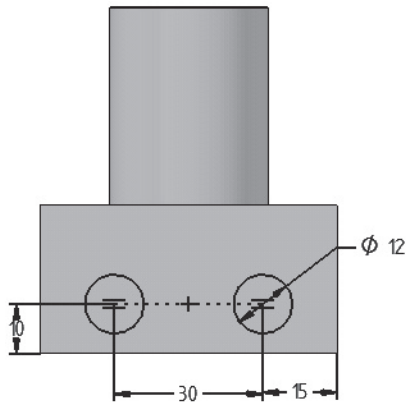

Figure 4-62 Profile for the cutout
3. Draw the profile of the cutout. The profile consists of two circles each with a diameter of 12, as shown in Figure 4-62.